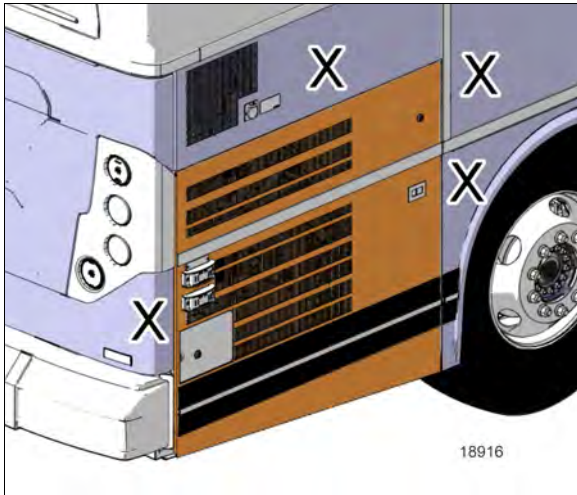

FIGURE 95: FLUSHED SURFACES
11. Adjust the both rubber stoppers to make all the surfaces marked with an "X" in Figure 95 flush with the door surface within a tolerance of  $\pm 1\text{mm}$ .